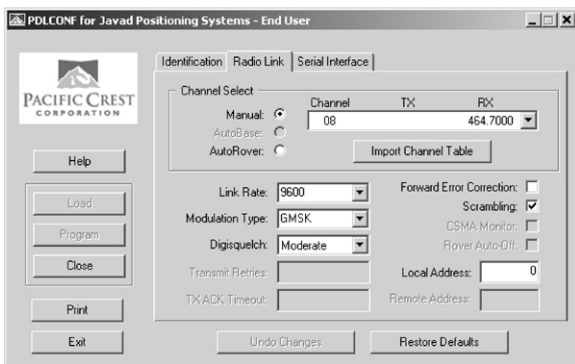

Figure 2-26. PDL Radio Link Tab
10. Click the **Radio Link** tab and set the following parameters (Figure 2-26):